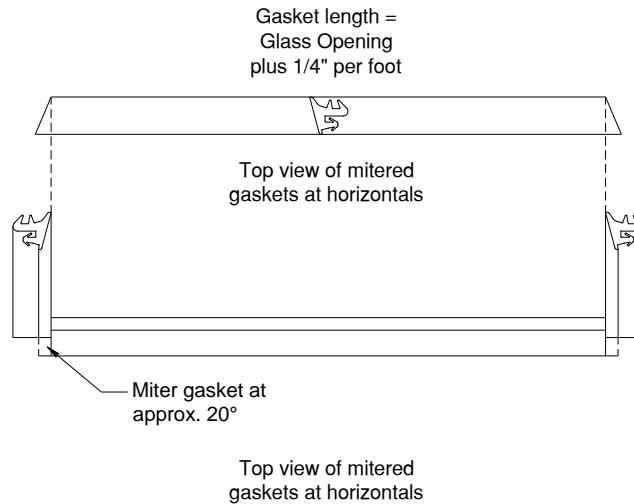

Figure 24: Gasket Cut Guide
11.3.2 Miter the horizontal gaskets per *Figure 24*.
- 12.7.3 Cut the **FG-5736** Gasket a minimum of 1/4" per foot longer than the D.L.O., to provide adequate compression, and miter the ends of the gaskets at a 20° angle, as shown in *Figure 24 (page 35)*.